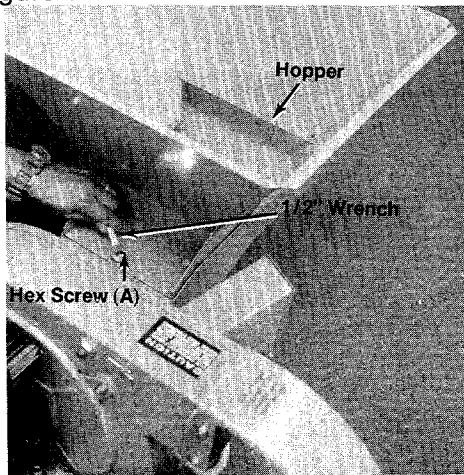

FIGURE 4.
- A. Place the hopper on the shredder, start all three self threading screws (A) by hand and then tighten with a 1/2" wrench. See figure 4.